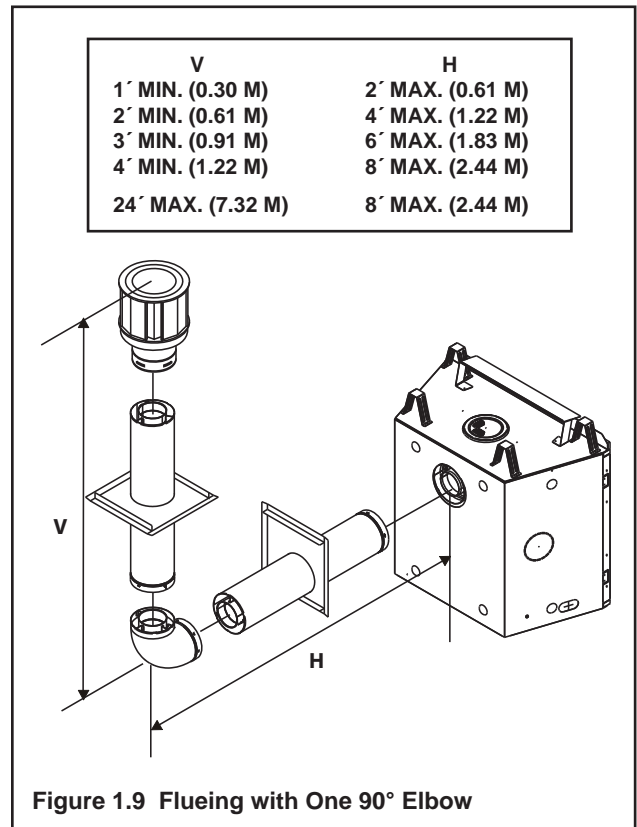

Figure 1.9 Flueing with One 90° Elbow
Figures 1.9 through 1.15 and their corresponding tables show examples of flue configurations using elbows. The relationships of vertical rise to horizontal run in flue configurations using elbows **MUST** be strictly adhered to.
Figures 1.9 and 1.10 show an installation using one (1) 90-degree elbow. Dimension V is listed as **MINIMUM** vertical dimensions and dimension H is listed as corresponding **MAXIMUM** horizontal dimensions.